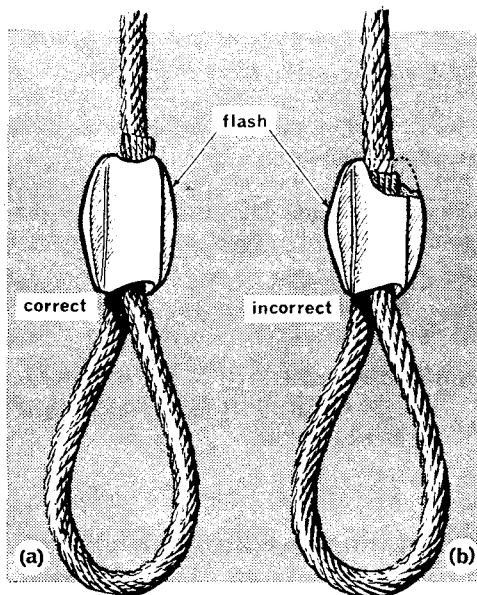

Fig 10.7 Correct and Incorrect Method of Assembly
- Always ensure that the end of the rope protrudes through the end of the ferrule after swaging (Fig 10.7).
- Always ensure that there is a flash of metal on each side of the ferrule after swaging (Fig 10.7). The joint is incomplete if there is no flash.